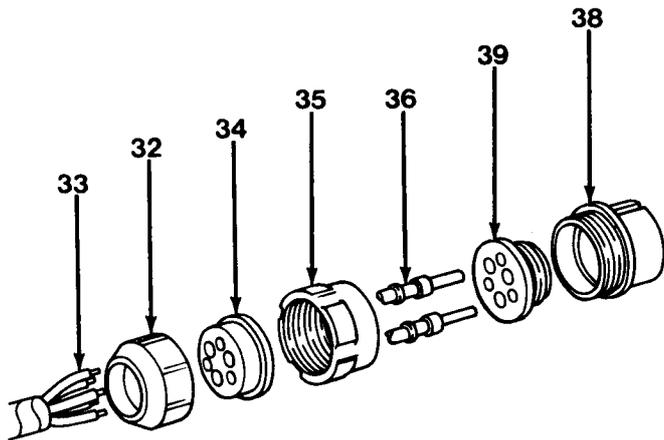

Figure 10-8
1. Strip cable of insulation equal to depth of solder wells of pin contacts (36, Figure 10-8).
2. Slide nut (32) over cable.
3. Slide grommet (34) over cable leads (33).
4. Insert cable leads (33) into solder wells of pin contacts (36) and solder (use rosin core solder only).
5. Push insert (39) into shell (38) from rear until seated. Groove in insert (39) must be aligned with guide in shell (38) to insure proper fit.
6. Push pin contacts (36) into insert (39) from rear until seated.
7. Slide coupling nut (35) onto shell assembly.
8. Push grommet (34) down cable leads (33) and over solder wells of pin contacts (36).
9. Screw nut (32) onto shell assembly.